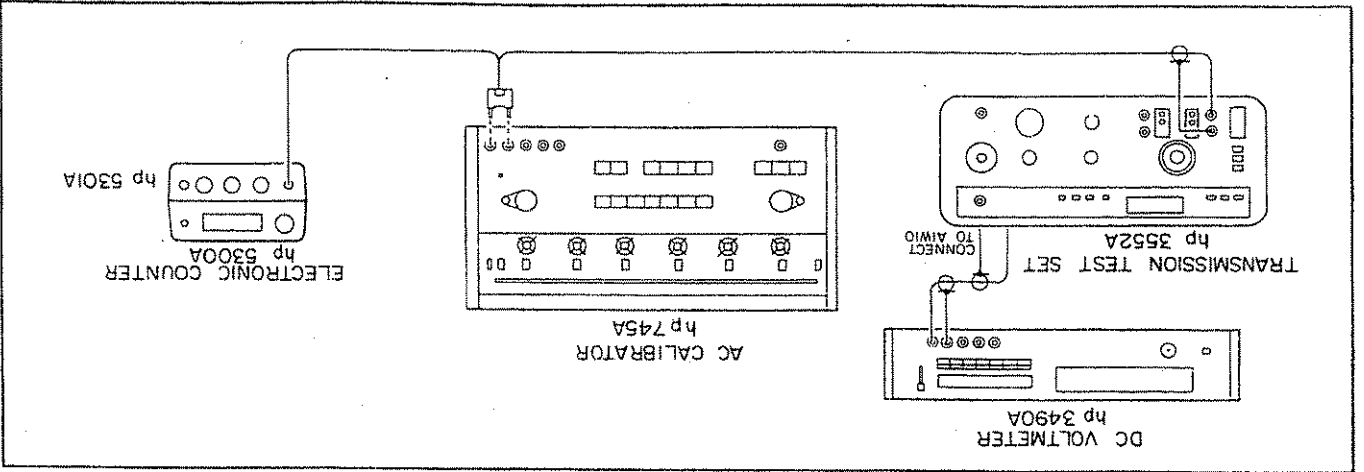

Figure 5-10. Receive Level and Noise Weighting Filters Adjustment.
a. Connect an ac calibrator (745A) to the Test Set black input/output terminals. Refer to Figure 5-10 for Test Set Connection.
a. Connect the ac calibrator to the Test Set as shown in Figure 5-10.